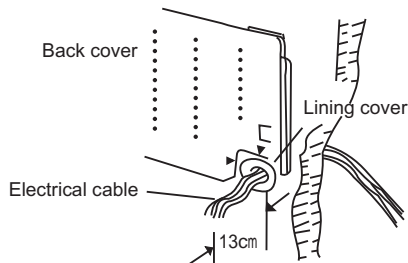

Figure 9
- 1) Thread the cable through the hole in the wall, an additional 13cm of slack power cable should remain inside the room. (Figure 9)